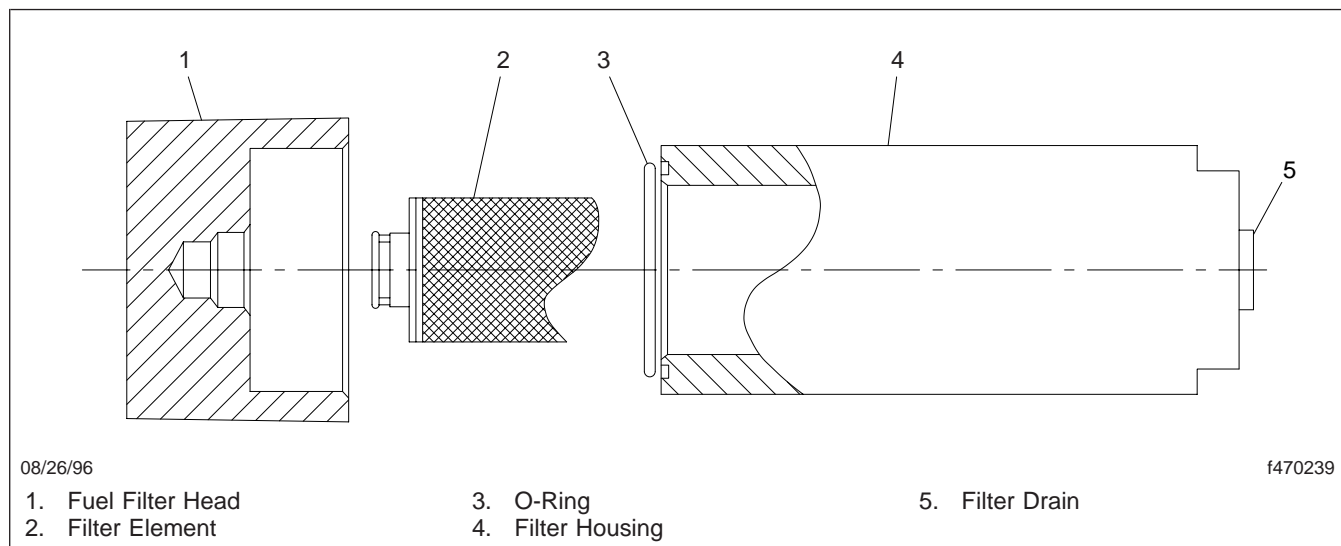

Fig. 1, CNG High-Pressure Fuel Filter Assembly
3. After the system has been vented, remove the filter housing. See Fig. 1.